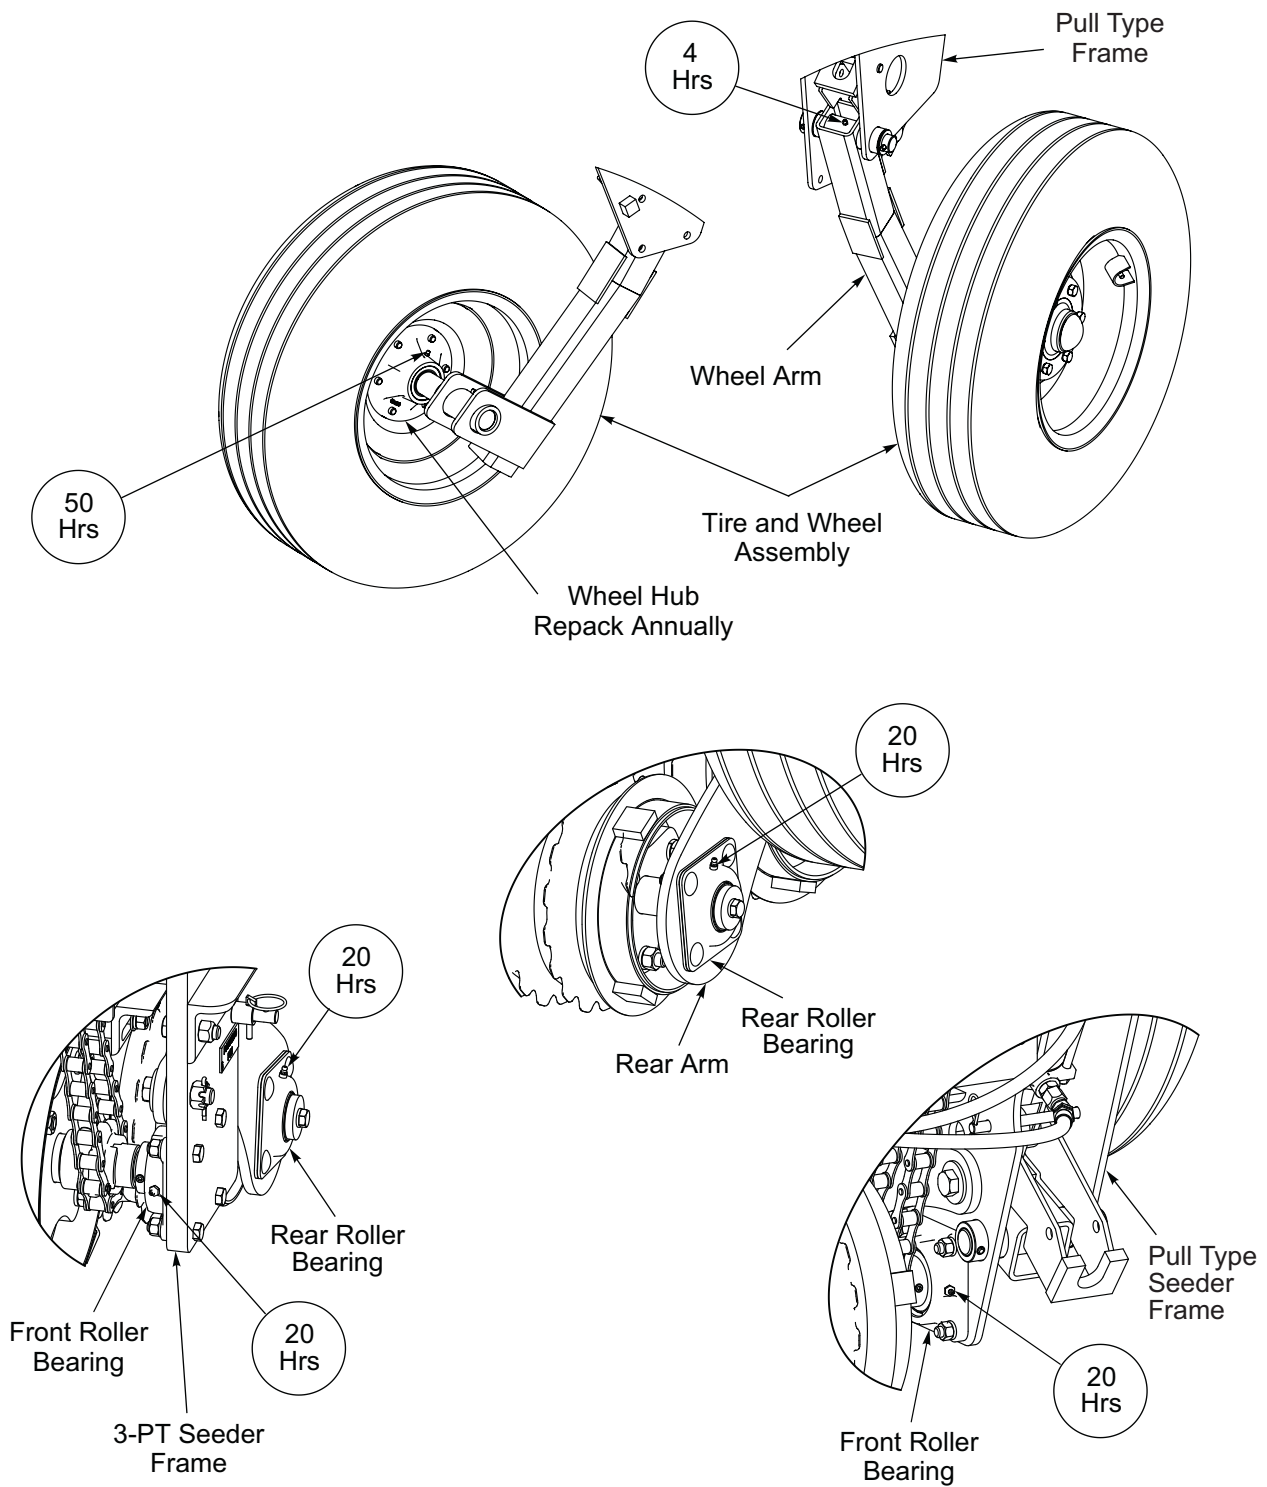

Figure 5-2: Lubrication Intervals
- Seeder has Greaseable Bearings on the ends of the Front and Rear Rollers and should be greased every 20 hrs. **See Figure 5-2.**